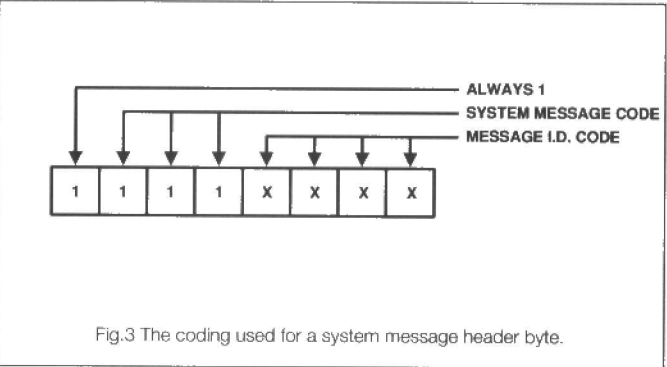

Fig.3 The coding used for a system message header byte.
System messages are directed at every slave unit in the system. Like any other MIDI message, not everything in the system will necessarily respond to them, but everything should process these messages to see if they are applicable. The most significant bit of a system message is always set to 1, just as for a channel message. The next three bits carry the system message code (111). No channel numbers are used with system messages, so the four least significant bits are free to carry the code that indicates the message type. This enables up to sixteen different system messages to be accommodated, but not all of the available codes are actually used at present. Figure 3 shows the way in which a system message header byte is coded.